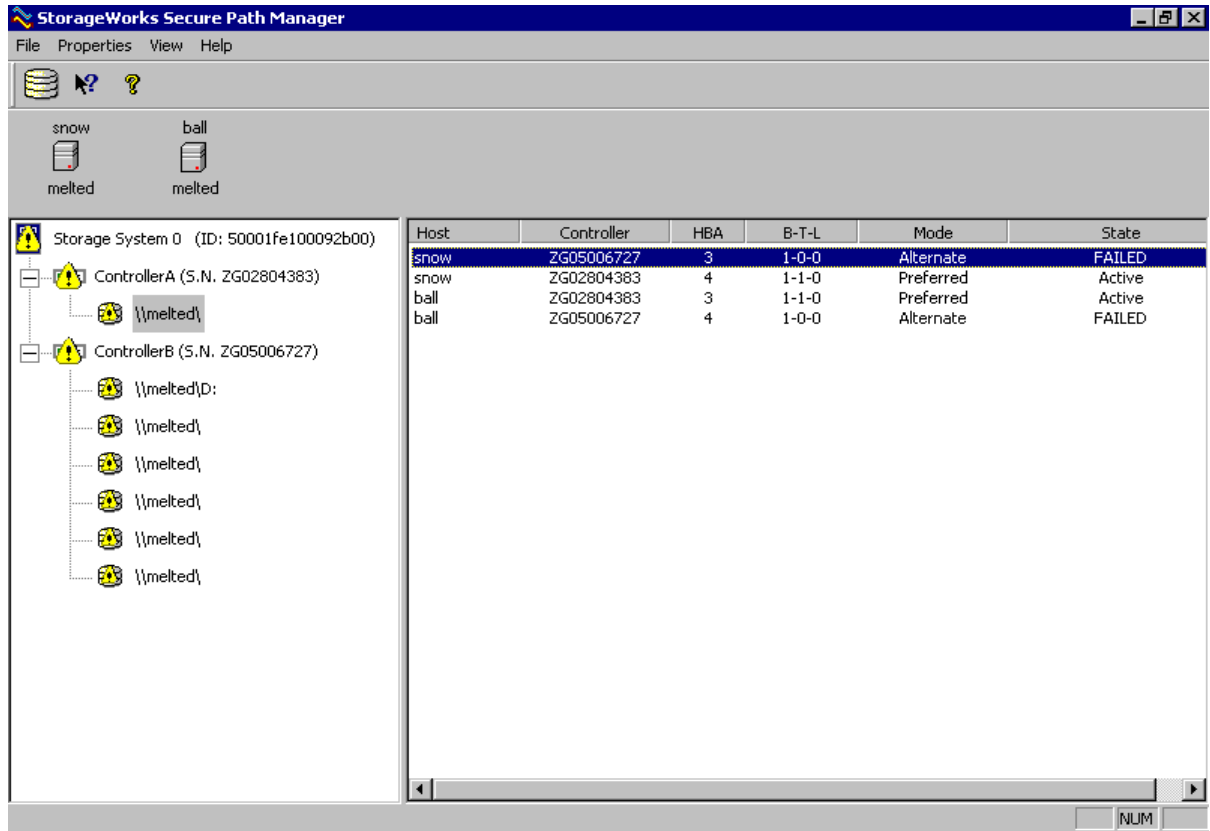

Figure 34: Display of a failed switch in SecurePath Manager
- SecurePath detects the failed SAN switch as a failure on two of the four paths to each unit (LUN). This process takes about 10-15 minutes depending on the number of units the cluster controls. Figure 34 shows SecurePath Manager after it has detected the failed paths.